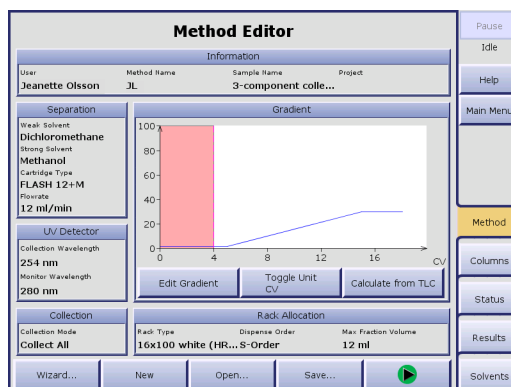

Figure 1-8. Chemistry Mode
In the chemistry mode, the software is divided into five (5) tabs that can be accessed in the right-hand panel (see Figure 1-8). Here is a short description of what you can do at each tab: